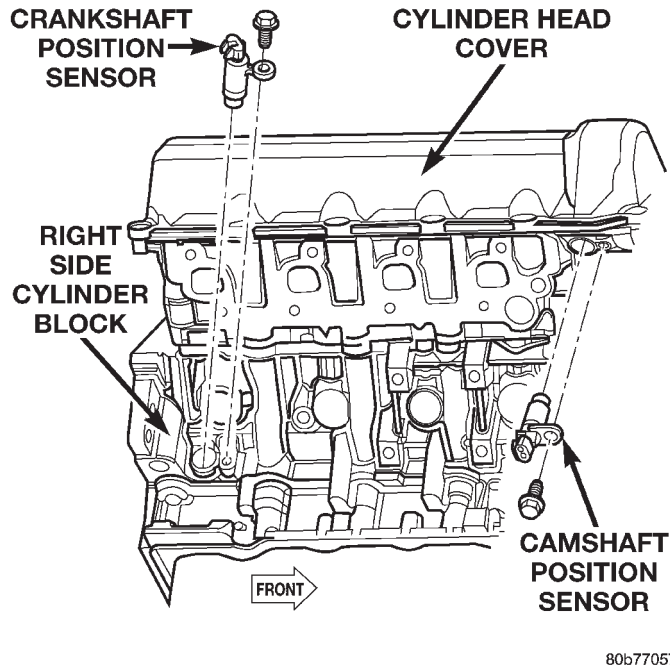

Fig. 65 Camshaft Position Sensor—Removal
- (11) Remove secondary chain tensioners.
- (12) Remove camshaft position sensor from right cylinder head (Fig. 65).